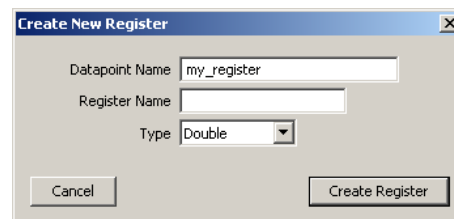

Figure 87: Create a user register.
2. Right-click in the data point list and select **New Datapoint...** in the context menu. This opens the register creation dialog as shown in Figure 87.